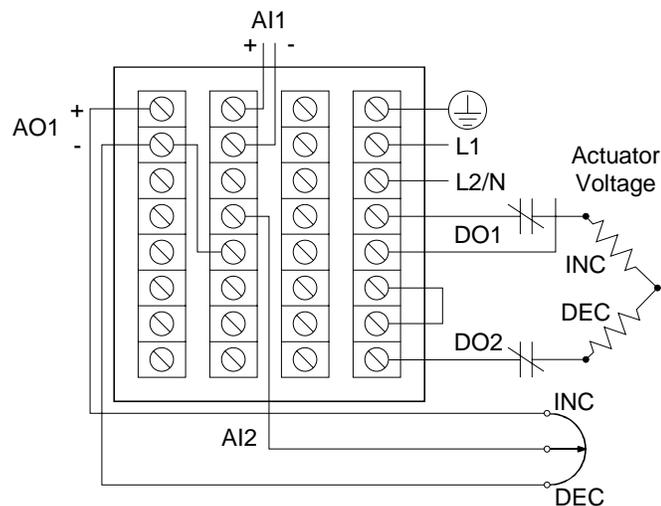

Figure 4-8 PP Typical Wiring
When the incoming field signal is current instead of voltage, a 250-ohm resistor with 0.1 % tolerance is used as a current shunt mounted on the input terminals as shown in Figure 4-8. Use p/n 074477 for 4 mA to 20 mA input conversion to 1 V to 5 V. Shunt resistors are not supplied automatically with the controller and must be ordered separately.
Position Proportional (PP) type outputs require two analog inputs, two discrete outputs and one analog output (Figure 4-8). The analog output must be a voltage type (VAT) programmed to provided a constant 1 V to power the slidewire feedback. See Section 10 for sample PP feedback configuration.